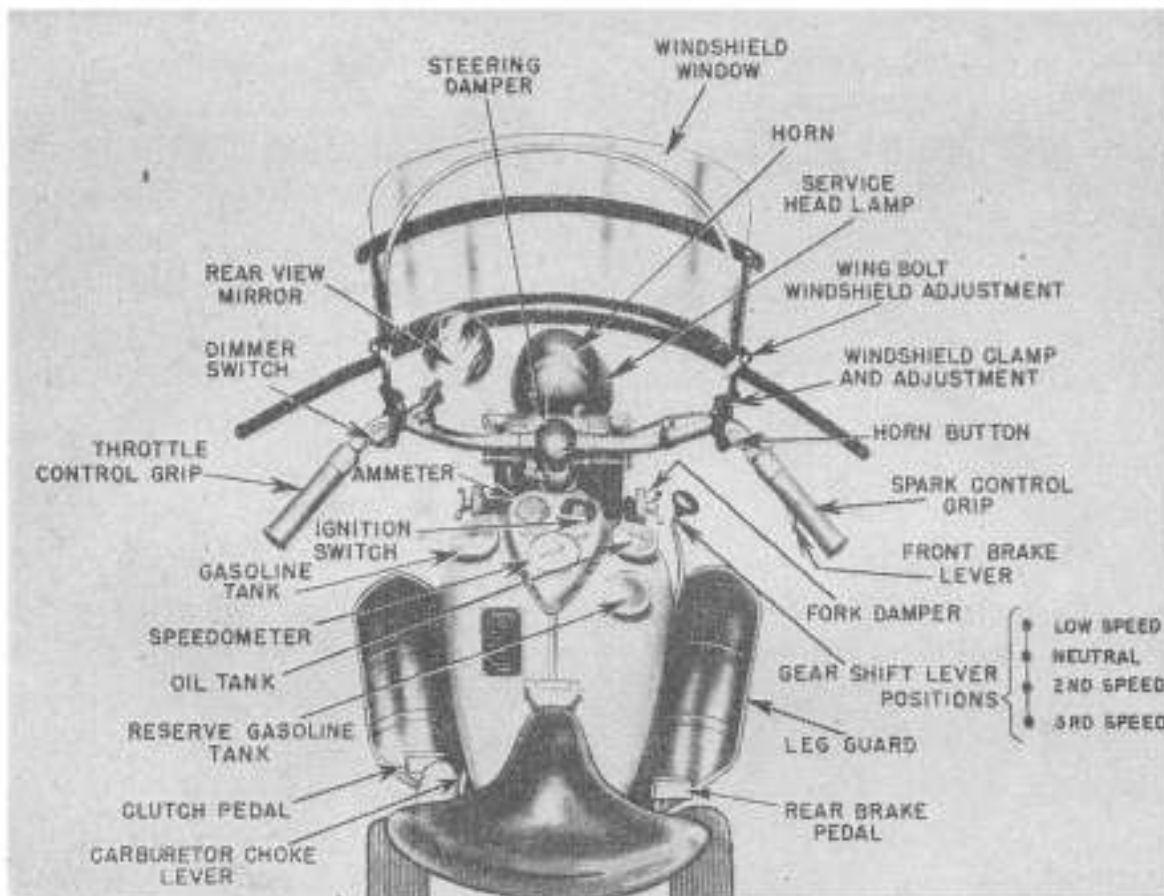

FIGURE 4.—Controls—Indian motorcycle.
b. The motorcyclist must first become familiar with the location of the various controls on the two makes of motorcycles used by the Army—the Indian and the Harley-Davidson—and also with the differences between the shaft-driven (second part of this section) and the chain-driven models. Figures 4 and 5 illustrate the controls on the Indian and Harley-Davidson chain-driven models respectively.